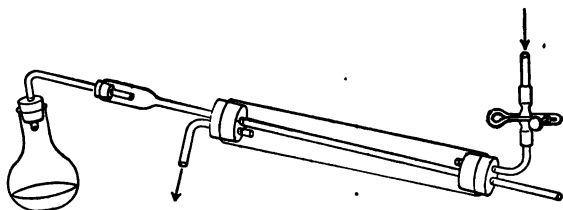

FIG. 31.
M. It is possible with this *condenser* (Fig. 31). It is made with an inner tube for steam and an outer jacket